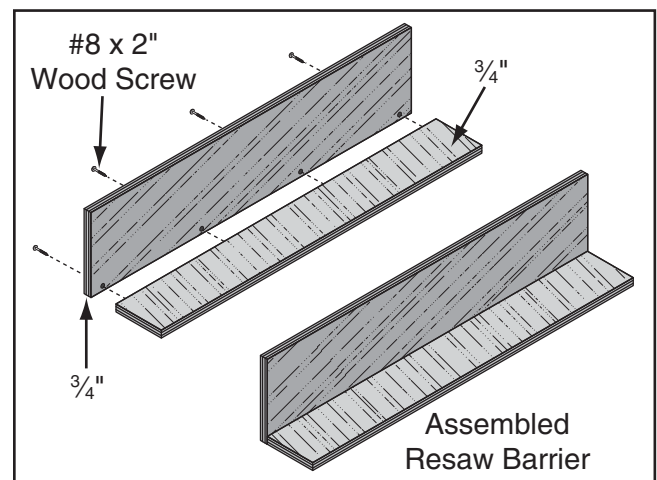

Figure 72. Resaw barrier.
3. Glue the end of the 3" board, clamp the boards at a 90° angle with the larger board in the vertical position, as shown in **Figure 72**, then fasten together with the wood screws.